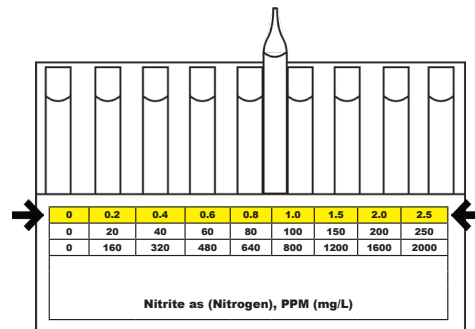

Figure 3
5. Use the 0 - 2.5 ppm concentration scale on the comparator label. Obtain a test result by placing the ampoule between the color standards until the best color match is found (fig. 3).